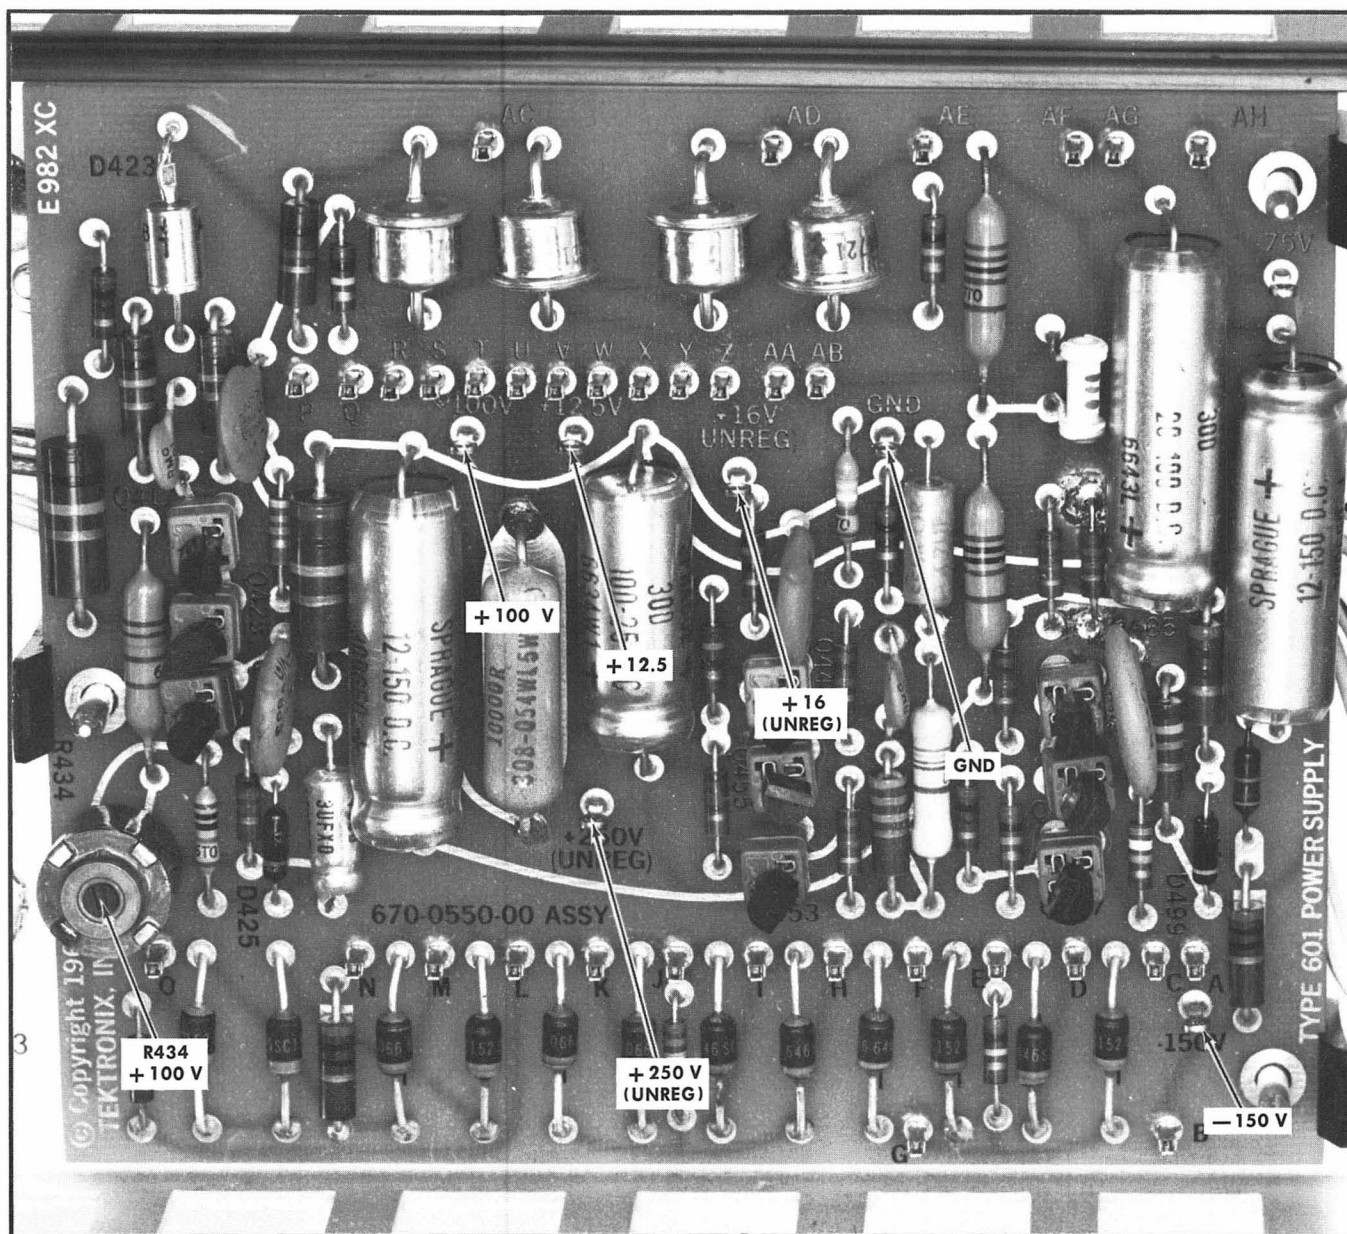

Fig. 6-3. Locations of power supply test points and R34, +100 V adjustment.
- Connect the electronic voltmeter between the +100-volt test point and ground (see Fig. 6-3).
- ADJUST—R434, +100 V (Fig. 6-3), for exactly +100 volts.
- Connect the electronic voltmeter between each low-voltage test point and chassis ground. See Fig. 6-3 for test point locations.